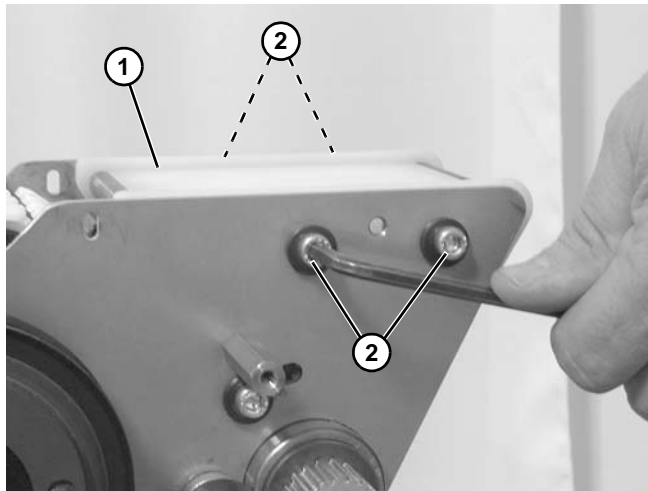

Figure 157
5. Install wear bar assembly (Figure 157, item 1) with four socket head screws (Figure 157, item 2).